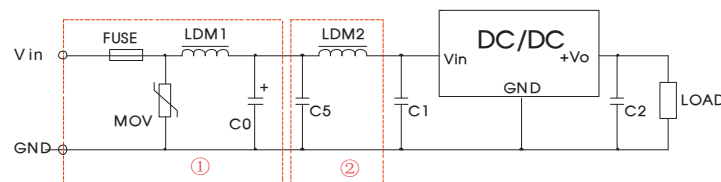

Fig.4 Recommended compliance circuit
Note: For EMC tests we use Part ① in Fig. 4 for immunity and part ② for emissions test. Selecting based on needs.